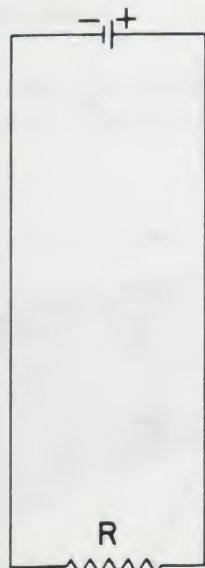

Figure 17A.
4. A technician wishes to measure the current in the circuit shown in Figure 17A. He has an ammeter with a range of  $1\ \text{A}$ , but he suspects that the current in the circuit is  $10\ \text{A}$ . To protect the ammeter he puts a resistor in series with it and wires the device into the circuit as shown in Figure 17B.